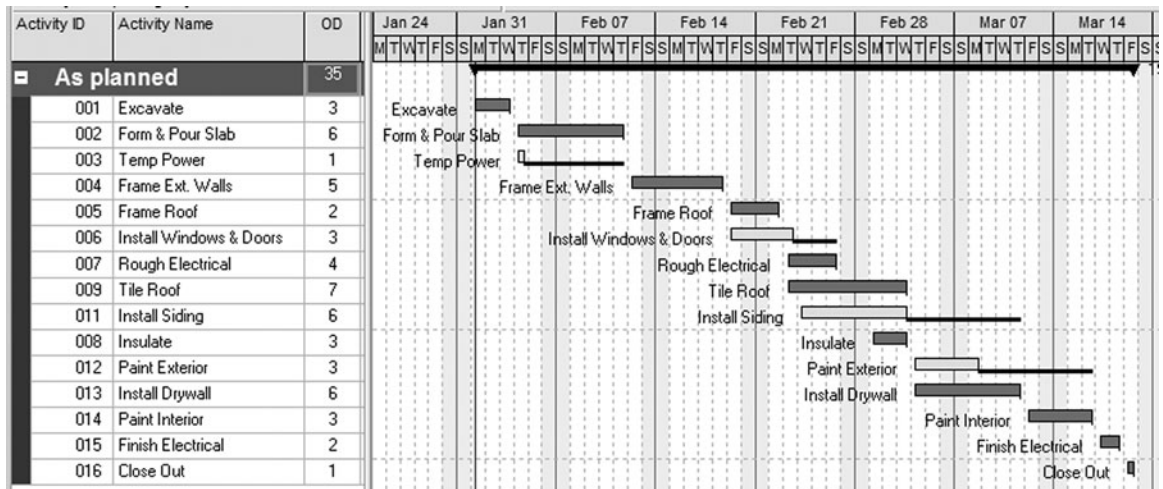

FIGURE 23.32 New warehouse schedule
4. Print reports. Print a bar chart for the project manager. Use the PM's layout created earlier with modifications as desired. The printed bar chart should look similar to Figure 23.32.